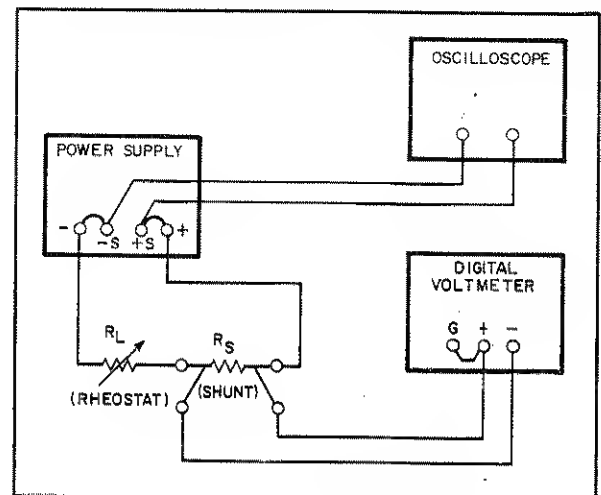

Figure 5-6. Current Limit Adjustment Setup
- a. Connect setup shown in Figure 5-6.